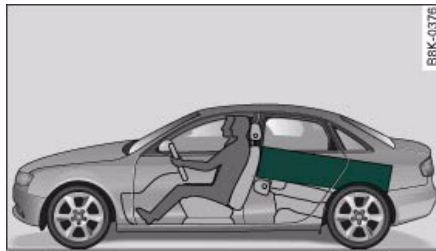

Fig. 82 Heavy items should be placed as far forwards as possible.
- Position heavy items as far forward as possible ⇒ fig. 82.